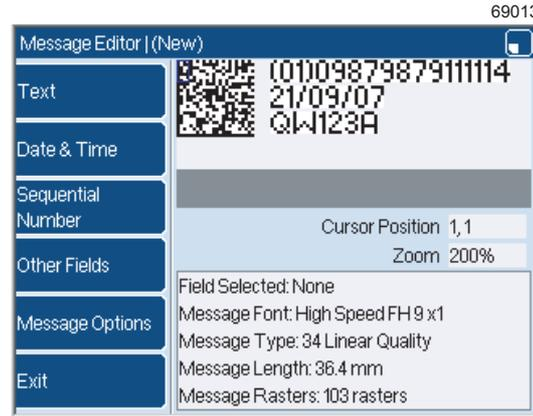
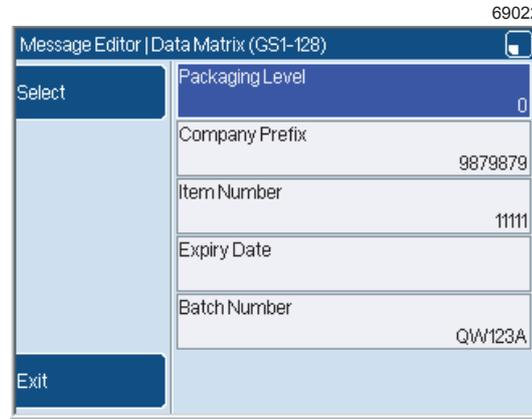

Figure 31. Data Matrix (GS1-128) field with source data
Figure 33. Data Matrix (GS1-128): Source Fields page
The 7900 printer can create a Data Matrix in GS1-128 format, a standard code used to identify animal health products. This format uses a 14-digit number to identify products at different levels of packaging. See Figure 31 for an example of a Data Matrix (GS1-128) code generated from the data shown in Figure 33 on page 22.
- 5 Press the **Exit** key two times to return to the **Message Editor** page. The printer displays the completed Data Matrix as shown in Figure 31 on page 21.